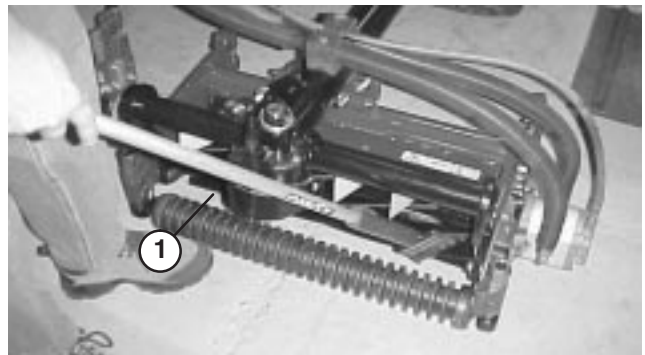

Figure 65
8. Apply lapping compound with a long handle brush (Toro Part No. 29-9100). Never use a short handled brush (Fig. 65).